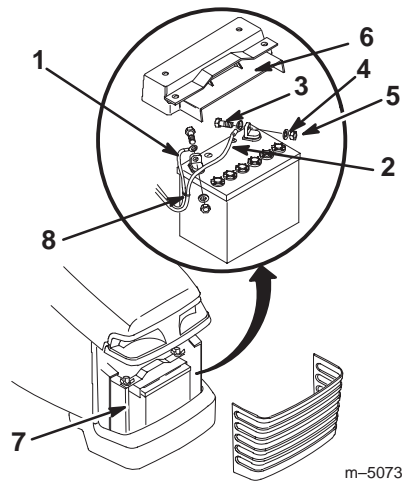

Figure 54
3. Remove the battery shield (Fig. 54).
4. Disconnect the negative (black) ground cable from the battery post (Fig. 54).
5. Disconnect the positive (red) cable from the battery post (Fig. 54).
1. Place the battery onto the chassis (Fig. 54).
2. Using the bolt, washer and locknut, connect the positive (red) cable to the positive (+) battery post (Fig. 54).
3. Using the bolt, washer and locknut, connect the negative (black) cable to the negative (-) battery post (Fig. 54).